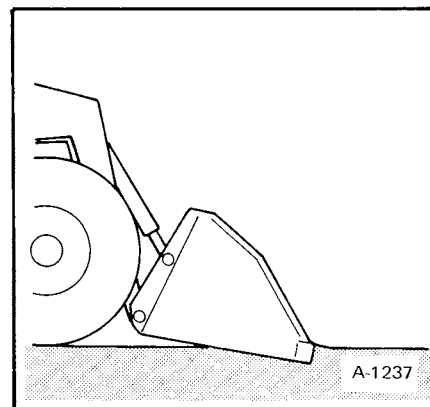

Fig. 22 Entering Surface
2. Drive forward, tilting bucket as necessary to penetrate surface (Figure 22).